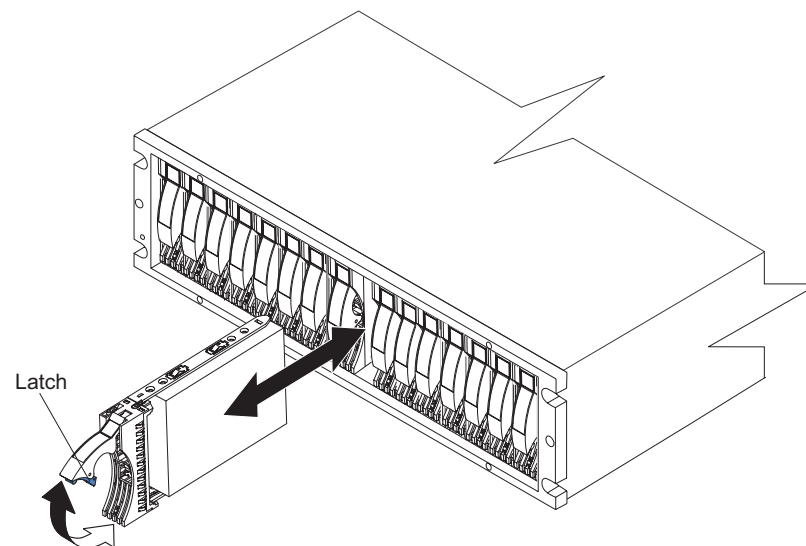

Figure 17. Removing an E-DDM CRU
4. Pull the E-DDM out of the bay, as shown in Figure 17.